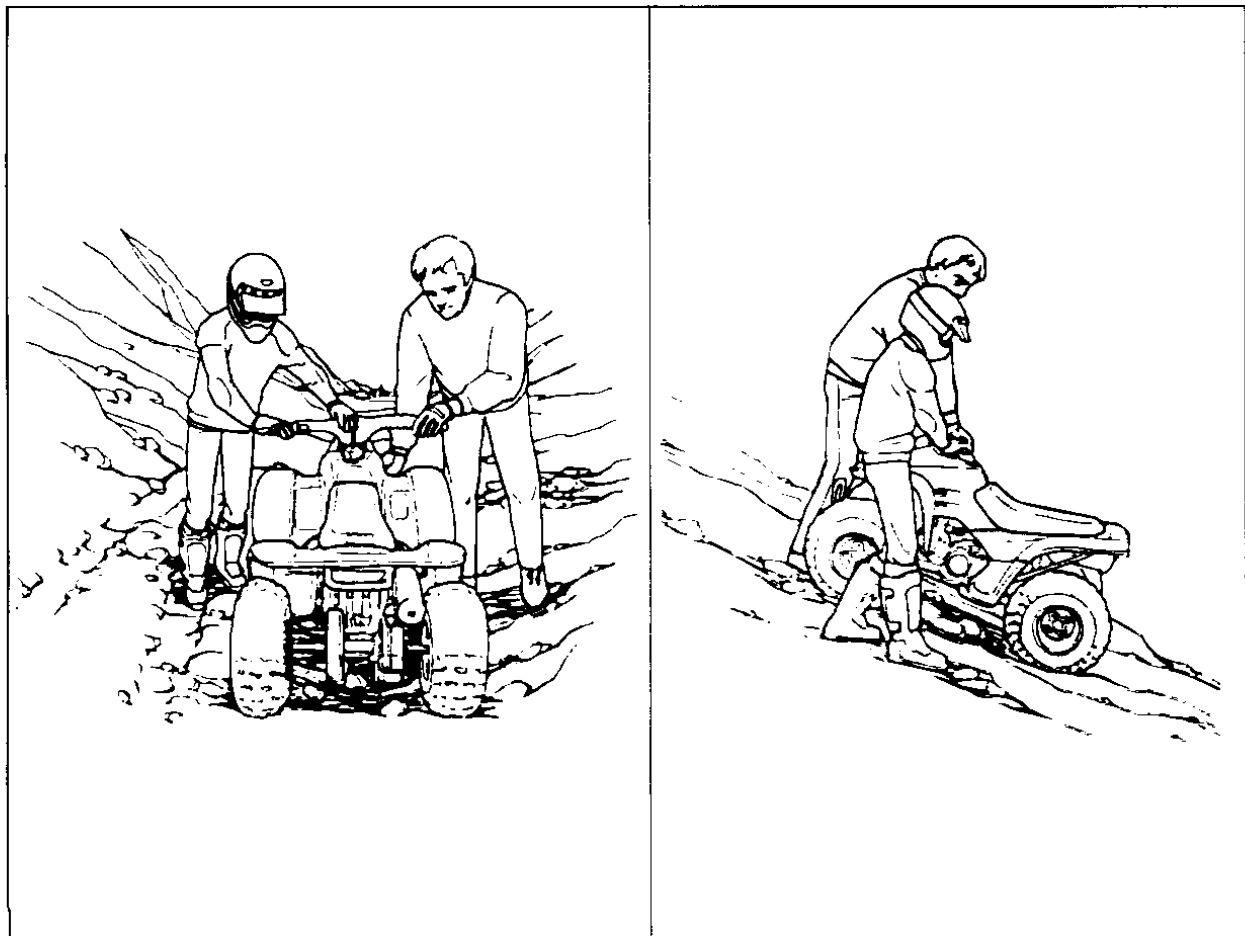

Fig. 3-18
1. Stand with your body facing downhill, beside the vehicle so you can reach the rear brake lever with your right hand (see Figure 3-18).